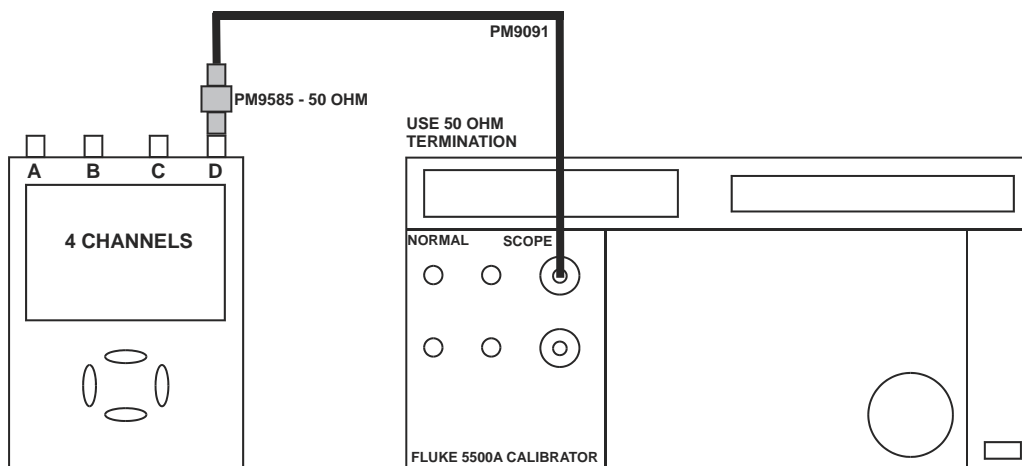

Figure 5-14. 5500A SCOPE Output to Test Tool Input D
2. Connect the Test Tool to the 5500A as shown in Figure 5-14.